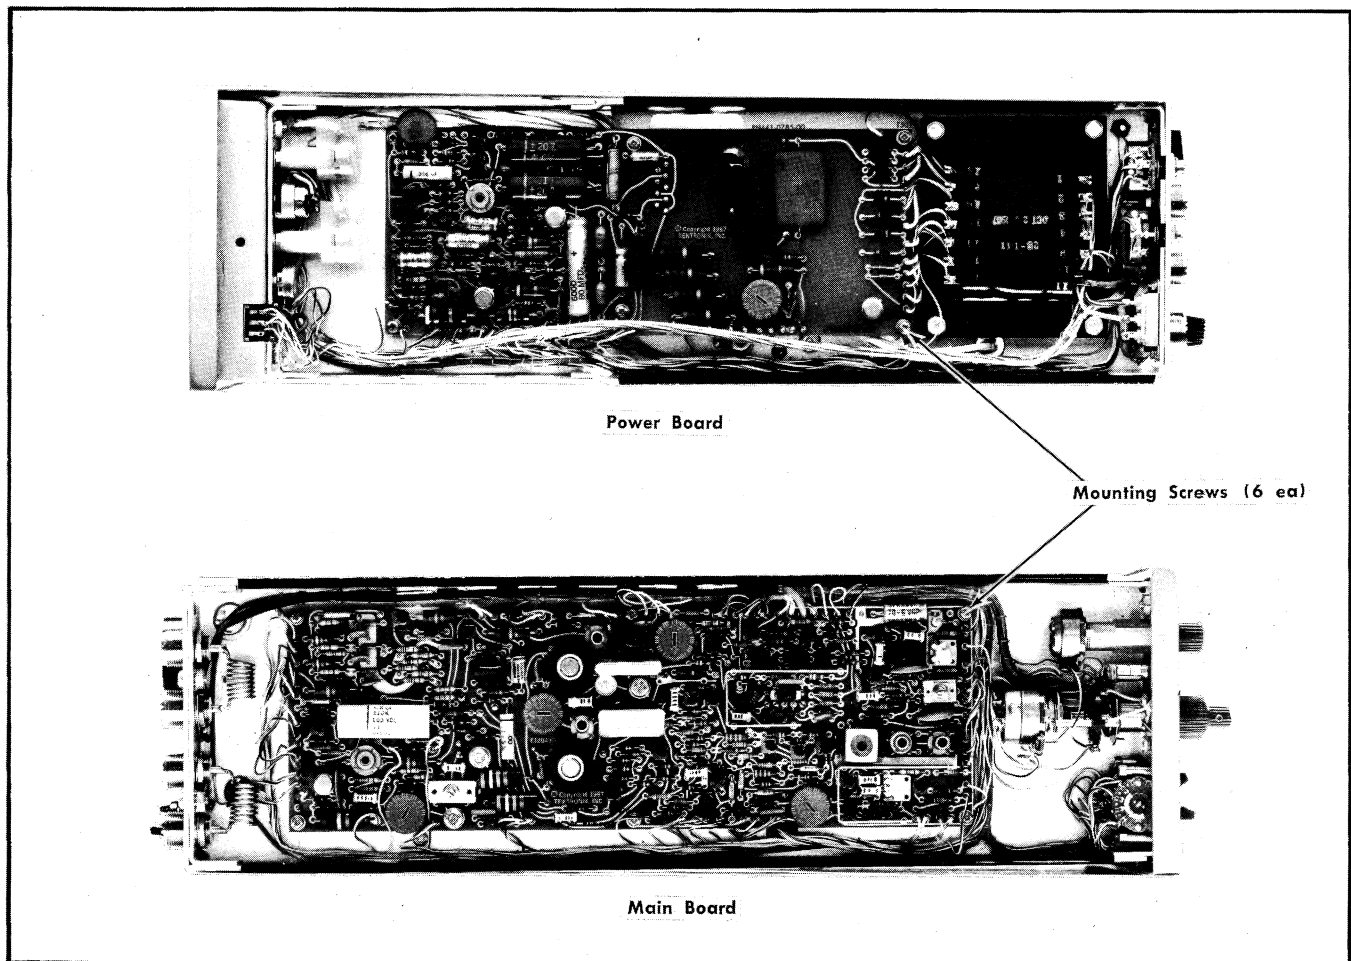

Fig. 4-11. Location of circuit boards in the Type 528.
3. Remove six (6) mounting screws. (See Fig. 4-11.)